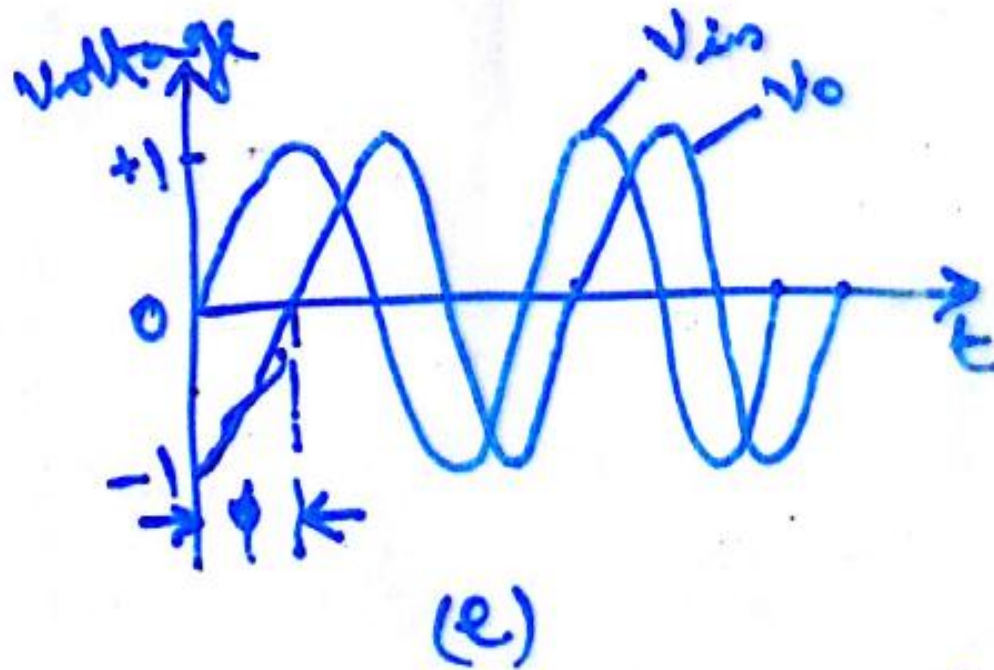

Fig 8.1 Frequency response of major active filters
- Figure 8.1 shows the frequency response characteristics of the five types of filters.
- Figure 8-1(a) shows the frequency response of low pass filter. As indicated by dashed line, an ideal filter has a zero loss in its pass band and infinite loss in its stop band
- Figure 8-1(b) shows a high pass filter with a stop band $0 < f < f_L$ and pass band $f > f_L$.
- Figure 8-1(e) shows the phase shift between input and output voltages of an all pass filter. This filter passes all frequencies equally well ie input and output voltages are equal in amplitude for all frequencies, with the phase shift between the two a function of frequency.
- As shown figure 8-1 (a) – (d), the actual response curves of the filters in the stop band either steadily decrease or increase or both with increase in frequency.